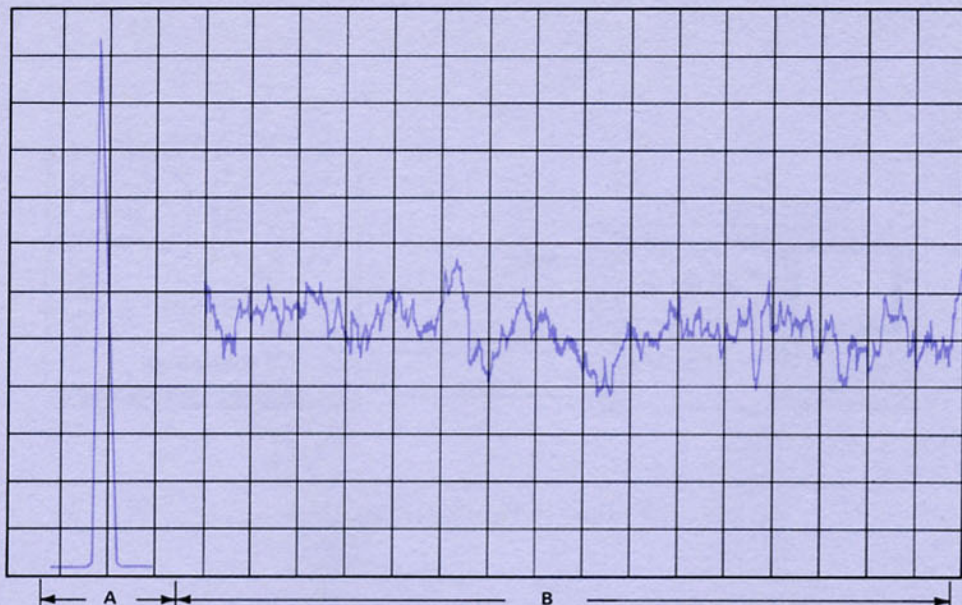

Figure 18. A 60 MHz CW Signal and its Frequency Drift During 30 Minutes.
3. Turn the recorder on and record the signal. Mark the three divisions which correspond to the three divisions we calibrated in step 2 above. From A of Figure 18, we see that each CRT division equals  $\frac{4}{8}$  inch or  $\frac{1}{2}$  inch. Thus 1 inch = 266 Hz.
Figure 18 part B shows the frequency drift of a 60 MHz signal for thirty minutes. This drift equals  $1.1 \times 266$  Hz = 288 Hz.